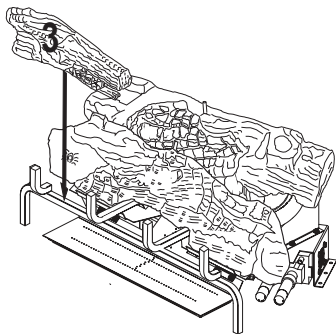

Figure 46 - Installing Log # 3
3. Place the front left log (#3) onto the base assembly between the middle log (#2) and the grate fingers. The back of the front left log (#3) will rest against the front of the middle log (#2). The notch at the end of the front left log (#3) will fit around the grate bar. See Figure 46.